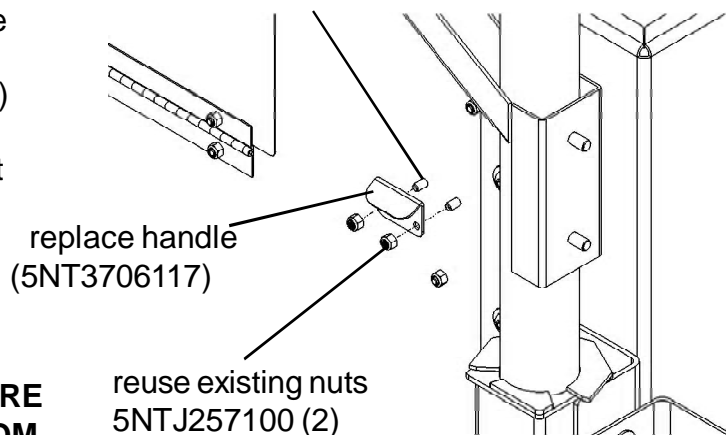

FIG. 4
4. Install the third Pulley with 3/8-16 x 1-3/4 Hex Head Cap Screw, 3/8 Flat Washer (2) and 3/8-16 Locknut in the bottom of the Boom Housing Weldment. See Page 10.
5. Install Winch using 3/8-16 x 3/4" Hex Head Cap Screw (2), 3/8 Lock washer (2), and 3/8 Flat Washer (2). The side that the handle mounts on should be toward the back of the machine. Install the winch handle.
7. Replace the lift handle on the boom side of the rear slide up guard door with the included Short Handle using the existing (2) 1/4-20 x 1/2 Button Head Socket Cap Screws, and (2) 1/4-20 Nylon Locknuts that were used to fasten the old handle. See FIG. 4.